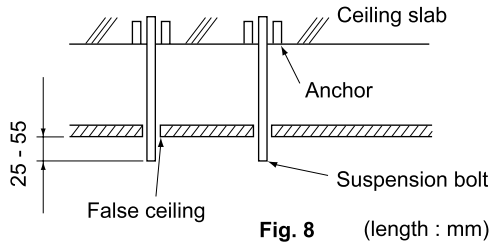

Fig. 8 (length : mm)
- Adjust the distance from the unit to the ceiling slab beforehand. (Refer to Fig. 8)